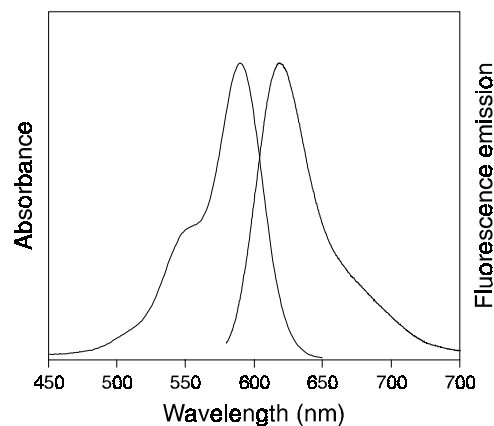

Figure 2. Normalized absorption and fluorescence emission spectra of Alexa Fluor 594 goat anti-rabbit IgG.
To detect antibodies derived from mouse, the Alexa Fluor 594 Signal-Amplification Kit for Mouse Antibodies uses two Alexa Fluor 594 conjugates. Alexa Fluor 594 rabbit anti-mouse IgG, which is prepared from an affinity-purified antibody that has been adsorbed against human serum to minimize crossreactivity, is first used to bind to the mouse primary antibody. The fluorescence signal is then dramatically enhanced by the addition of Alexa Fluor 594 goat anti-rabbit IgG, which is prepared from an affinity-purified antibody that has been adsorbed against human IgG and serum, mouse IgG and serum and bovine serum to minimize crossreactivity. Alexa Fluor 594 conjugates have excitation/emission maxima ~590/617 nm (Figure 2) and can be detected with filters or instrument settings appropriate for Texas Red dye. The Alexa Fluor 594 Signal-Amplification Kit for Mouse Antibodies can be used for both fluorescence microscopy and flow cytometry.
2.10 Analyze the cells by flow cytometry. The samples will have absorption/emission maxima ~590/617 nm (see Figure 2).